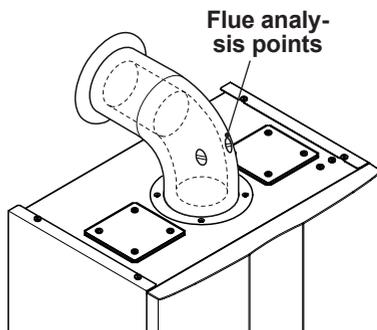

Fig. 9.12
It is recommended that a combustion analysis check is made. Remove the plug as indicated in Fig. 9.12 and carry out combustion analysis check and adjustment if necessary as described in the section Gas valve - Adjustment of the Service manual.
- Check the combustion of the boiler using the outlets located on the flue tubes (Fig. 9.12) and compare the data measured with that following.